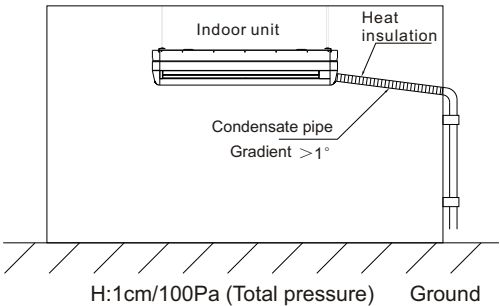

Fig 23
- e. After installing the condensate pipe, it will do leakage test through pouring some water to check whether there is a leakage at joints and drain is smooth. As for the new room, do the leakage test before laying the ceiling, please refer to Fig 23.